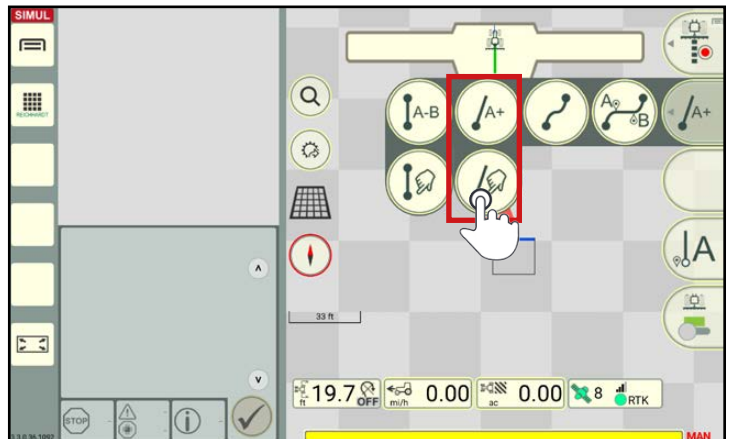

Fig. 97: Selecting track type "A+ track" or "A+ track, manual" for the reference track recording/creation
-  Swipe the second button of the field marking menu to the left (see Fig. 97).